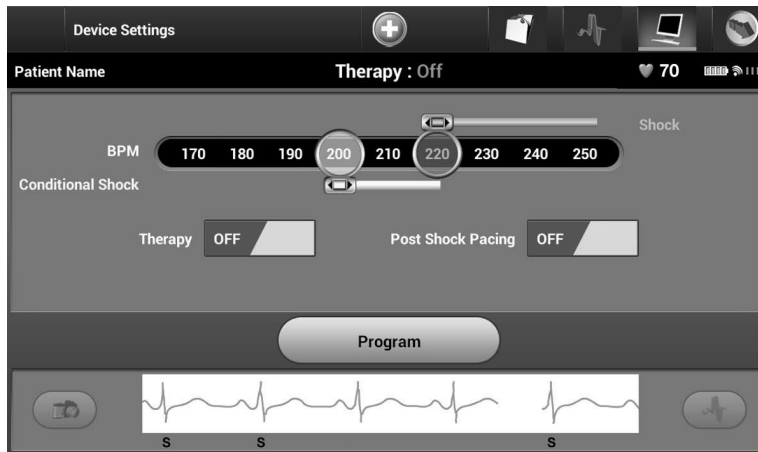

Figure 30: *Device Settings screen*
- Select the Device Settings icon on the Navigation Bar to display the Device Settings screen (Figure 30).